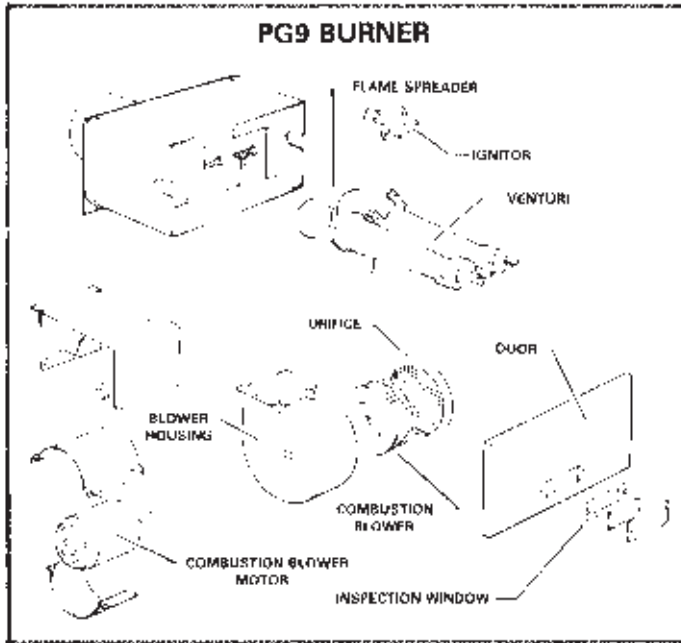

FIGURE 6
- 4 - PG9 Power Burner (Figure 6)**